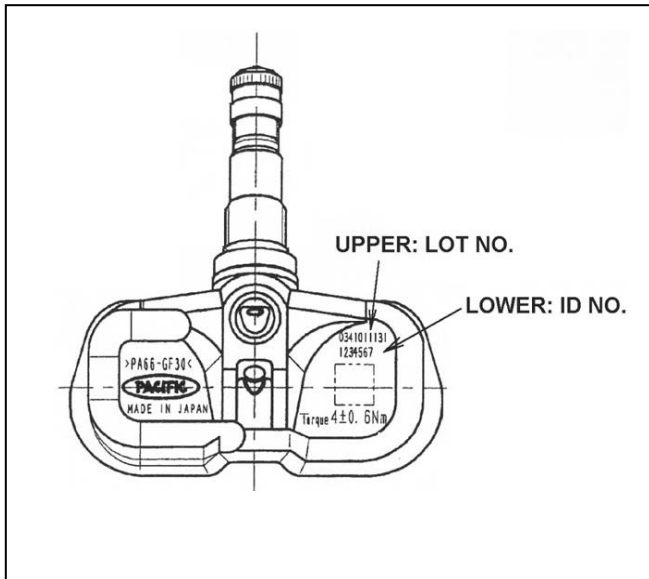

Figure 7
- Visually check that there is no deformation or damage on the tire pressure monitor valve sub-assembly. See Figure 7.